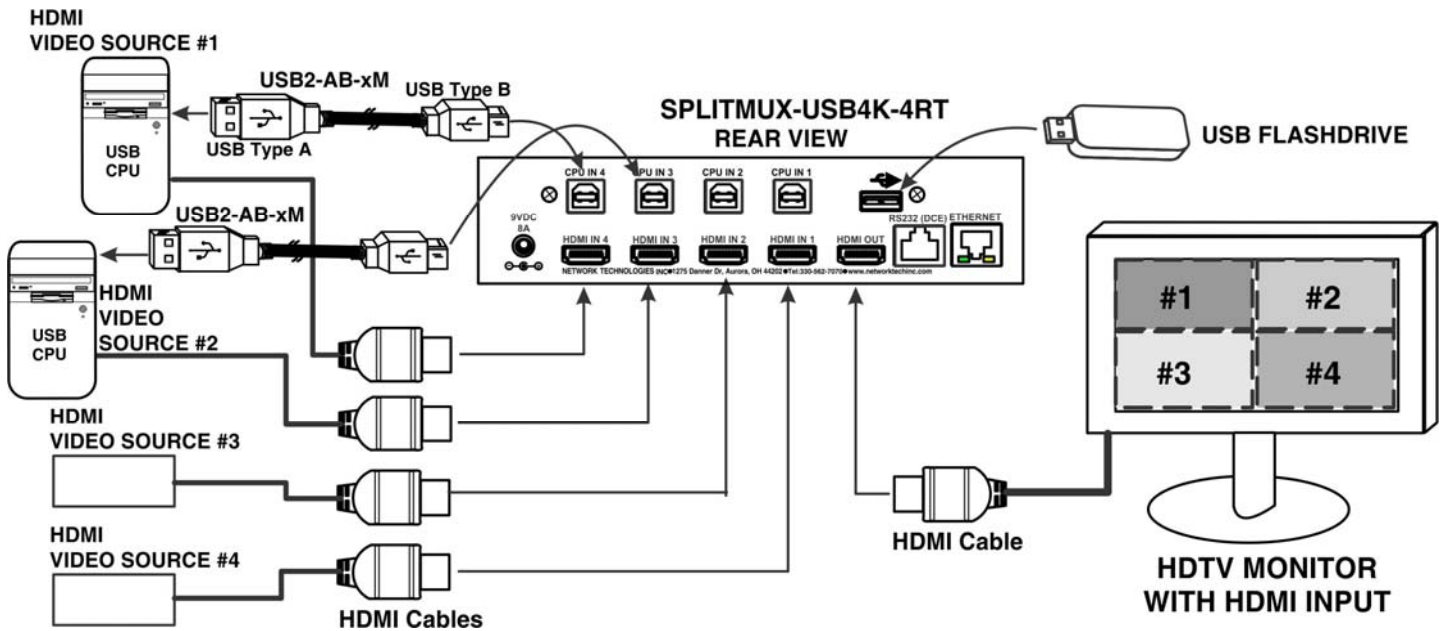

Figure 10- Video Source\Display Connections- SPLITMUX-USB4K-4RT
4. Press the switch on the front to power the SPLITMUX ON. Within 20 more seconds the LED will change from red to green (ON) and the SPLITMUX will be ready to use.
5. For keyboard control of the OSD menu of the SPLITMUX, connect a USB keyboard to the USB type A ports labeled "KYBD/MOUSE" on the SPLITMUX. On models supporting transparent USB device connection (SPLITMUX-USB4K-4RT), the keyboard and if a mouse is connected to these ports, they will also control the keyboard and mouse functions on any connected PC. (See Figure 10)